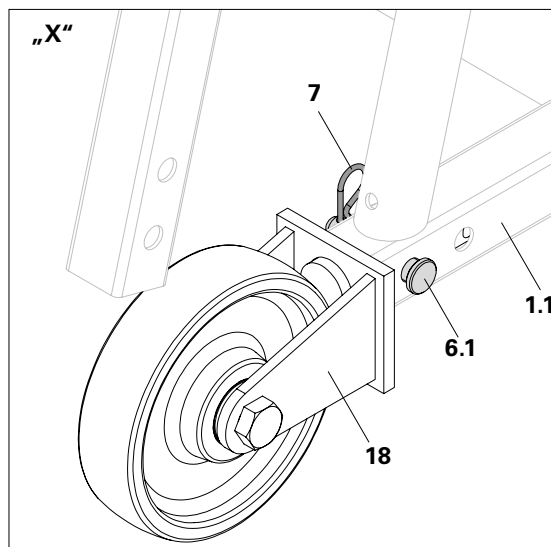

Fig. A4.01a
1. Insert Support Roller (18) into the rectangular tube of the Eave Element (1.1).
2. Insert Bolts (6.1) - from the outside to the inside - through the holes of the rectangular tube and secure with Cotter Pins (7).
- (Fig. A4.01a)